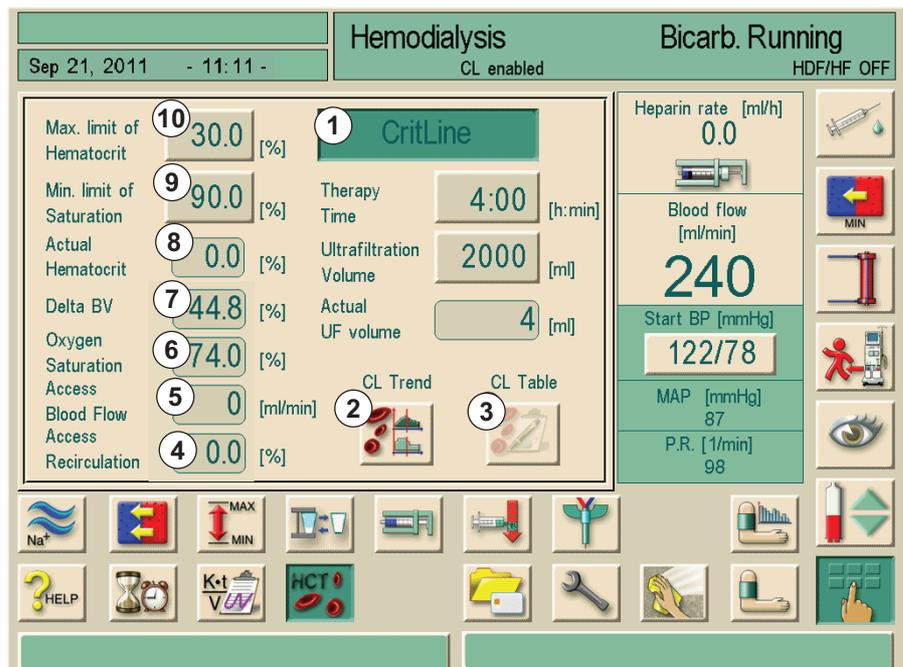

Fig. 11-33 Crit-Line Main Window
When button 2 in Fig. 11-33 Crit-Line Main Window (215) touched, the trends of hematocrit, blood volume change in percent, recirculation, access blood flow and oxygen saturation can be displayed. A trend group consisting of three trends is displayed on the screen. The trend groups can be edited by touching the trend button (5) (see chapter 12.10 Edit Parameter of Trend Groups (248)).
1. Touch button 3 in Fig. 11-33 Crit-Line Main Window (215).